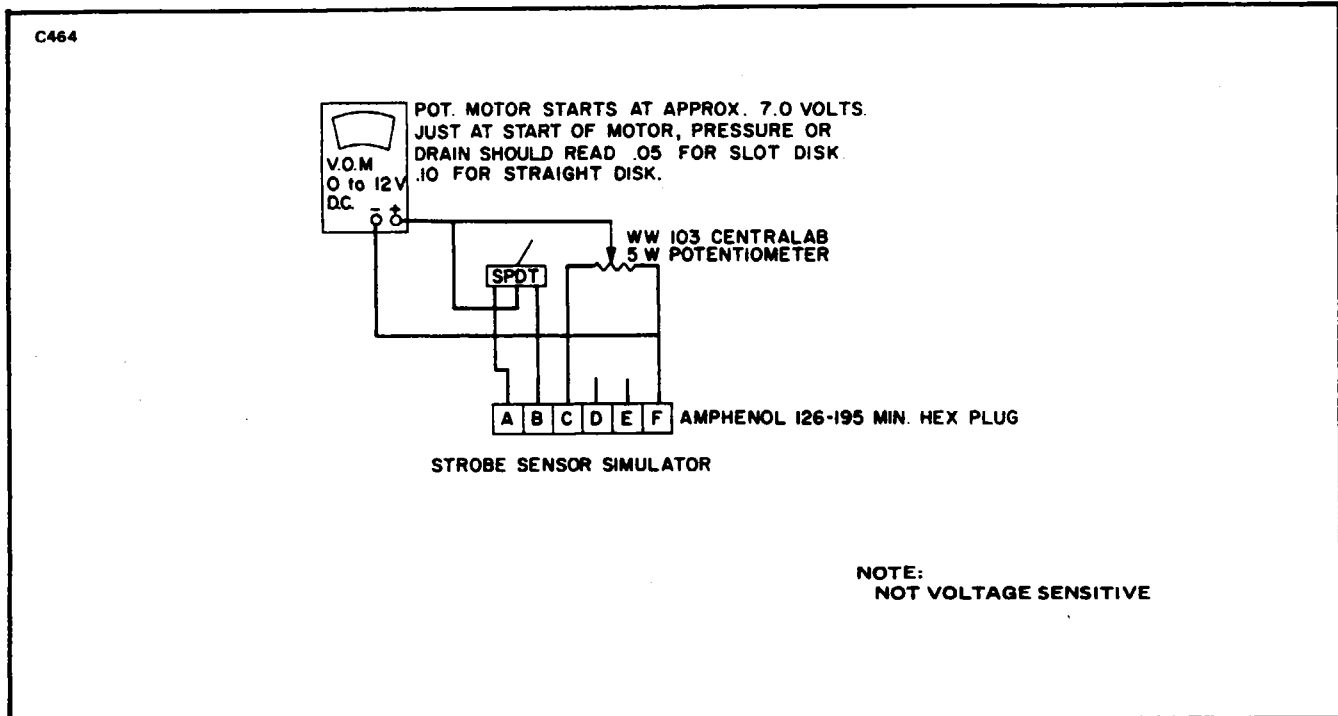

Figure 14-45. Strobe Sensor Simulator
- (d) Connect the strobe sensor simulator. (Refer to Figure 14-45.) Move the potentiometer and listen to the computer. The motor should run at approximately 7-volts.